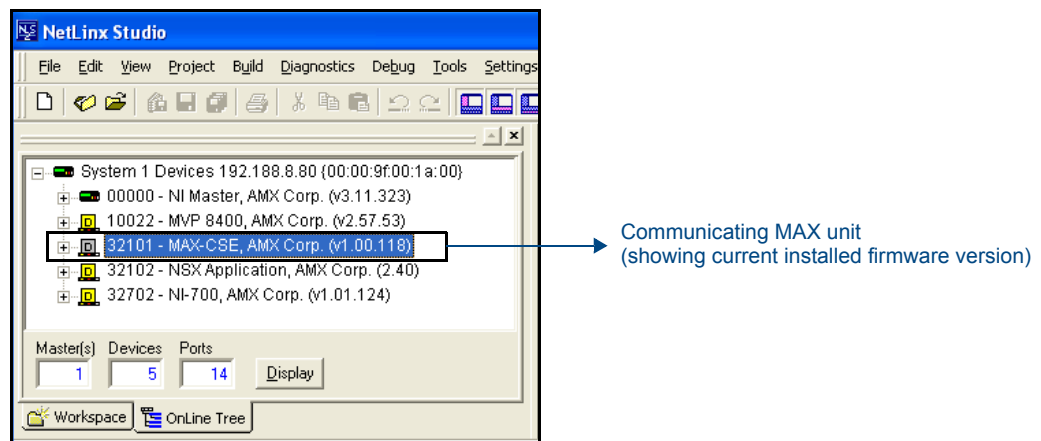

FIG. 35 Studio Online Tree tab showing the communicating MAX unit
- Within Studio, connect to the target Master, click on the **Online Tree** tab to review what device values are already being used (FIG. 35).
9. Confirm the MAX unit is properly communicating with the target Master by using NetLinx Studio to confirm the presence of the new device within the Master's System listing (FIG. 35).
3. After the new connection to the target NetLinx Master is established, the MAX unit is displayed within the current System's **Online Tree** tab using the new device value (FIG. 35).